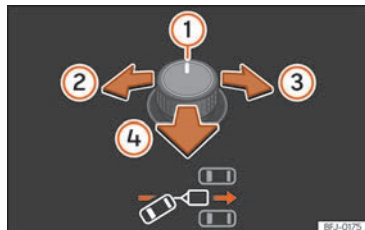
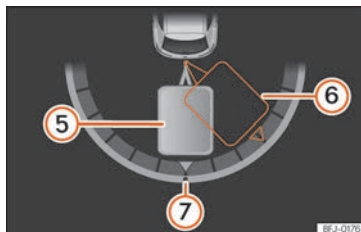

Fig. 207 Rotary exterior mirror controls.: adjust the trailer angle.
Fig. 208 Instrument panel display: engage reverse gear
Key of the **Fig. 207**, » **Fig. 208**:
• Tilt the rotary control until the desired direction is reached » **Fig. 207**. A representation of the tow vehicle and trailer set is shown on the instrument cluster screen for guidance purposes » **Fig. 208**.